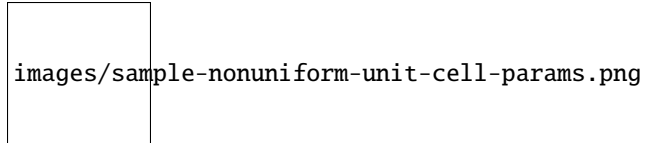

Fig. 1.6: Structure Parameters and Structure Map pop-up window for a non-uniform structure.
- For non-uniform structures, after selecting the *Input Structure Parameters* button the pop-up windows in Fig. 1.6 appears.